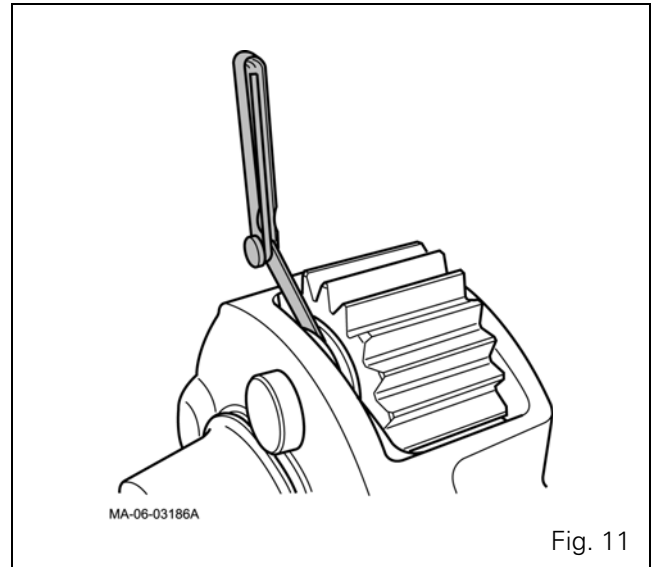

Fig. 11
50. Use a set of shims to determine a thickness of shims (13) to fit to obtain axial clearance between 0.15 and 0.55 mm on each pinion gear (Fig. 11).